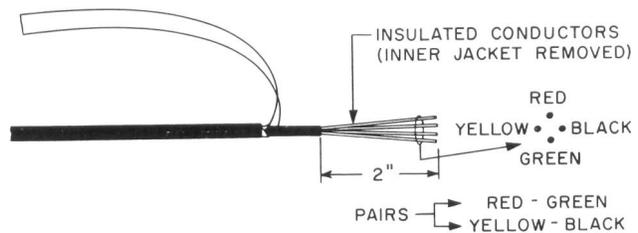

Fig. 3 — B Service Wire With Inner and Outer Jackets Removed
(5) Measure 2 inches from the end of the inner jacket and cut off the excess portion of the conductors, as shown in Fig. 3.